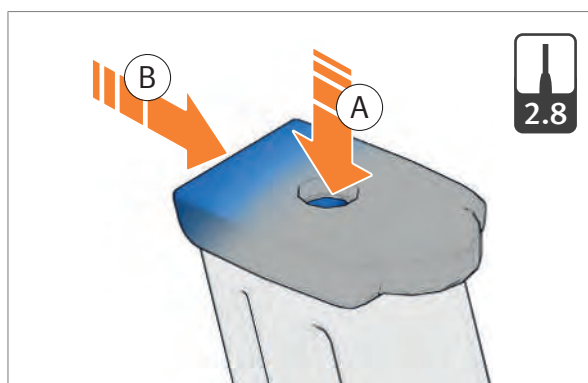

Fig. 60: Slide magazine floor plate forwards
1. Using pin punch, push in magazine locking plate and slide magazine floor plate forwards slightly (*Fig. 60*).